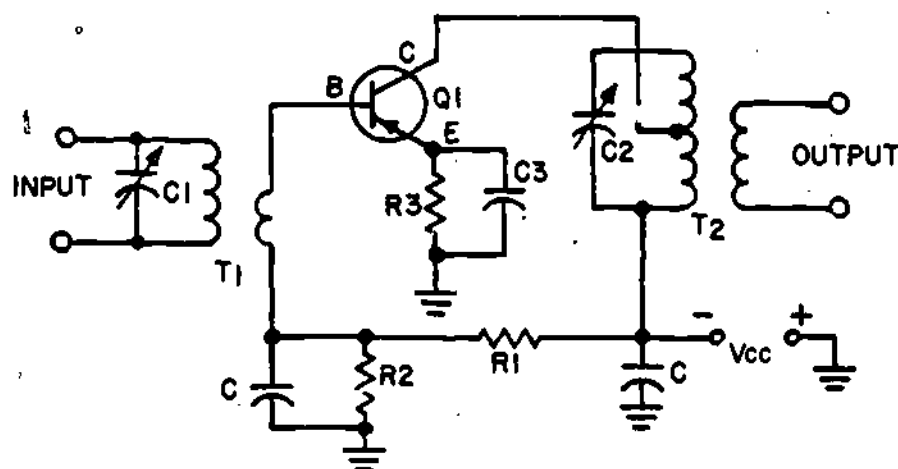

Figure 7
- ②. NOW let's look at the diagram of a typical common-emitter IF amplifier stage shown in Figure 7.
You recall that single-tuned transformer coupling has only one tuned tank, and that double-tuned transformer coupling has two tuned tanks. Double-tuned transformers are quite common in IF stages when a narrow bandwidth is desired. However, the bandwidth requirements for the circuit in Figure 7 are best provided by the single-tuned tanks. In the figure, neutralization components have not been included. You will find that neutralization components are often added to amplifiers operating at high intermediate frequencies.
In Figure 7, the coupling circuits are (single/double) - tuned, and the amplifier has (some/no) neutralization components.